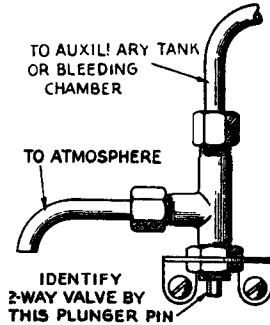
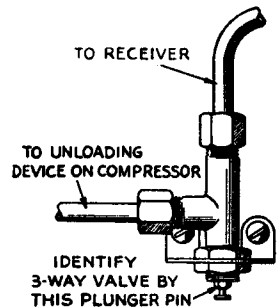

Fig. 2—Two-Way Valve Installation.
Fig. 3—Three-Way Valve Installation.
**RELEASE VALVES:** **Two-way Release Valve**—For use on air compressor systems equipped with auxiliary tank or bleeding chamber. Purpose: (1)—To unload the compressor so that it starts against atmospheric pressure only, thus relieving the motor of heavy starting duty. (2)—To automatically drain off the condensation and oil from discharge side of compressor. Connect 1/4" copper tubing from top of valve to auxiliary tank or bleeding chamber as shown in Fig. 2. Insert check valve between tank and bleeding chamber to prevent discharge of tank pressure. Side opening in valve is only for carrying discharged matter away. **Three-way Release Valve**—For use on air compressor systems where compressor is equipped with unloading device. Connect 1/4" copper tubing from top of valve (see Fig. 3) to receiver. Connect side opening of valve to unloading device on compressor. Condensation and oil will drain through bottom (around valve operating plunger). **IMPORTANT:** Clean thoroughly all pipes and tubing leading to release valves before connecting. This prevents pipe scale, filings, metal chips, etc., from reaching valve.
**VALVE SERVICE AIDS:** If two-way valve (Fig. 2) leaks while compressor is running, it indicates that foreign matter is holding valve open. If leak occurs while compressor is idle, receiving tank check valve is faulty. **Two-way valve seats only while compressor is running. Three-way Valve (Fig. 3) contains two internal valves that open and close alternately when compressor starts and stops. If continuous leak occurs while compressor is either running or idle, foreign matter is holding one of the valves open. To correct leaks due to foreign matter in release valve, disassemble and wash all parts in clean gasoline. Use extreme care not to injure valve seat or plunger. DO NOT ATTEMPT TO LAP VALVE SEATS.**